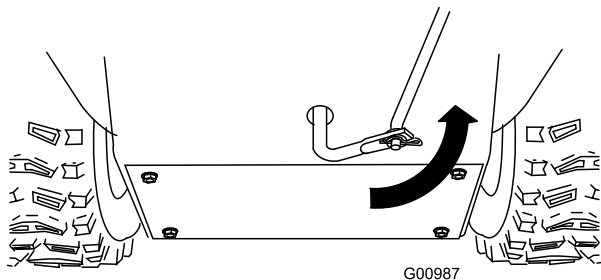

**Figure 11**
3. Remove the hairpin cotter and the outer washer from the trunnion on the upper end of the speed control rod (Figure 11).
**Note:** To make installation easier, leave the flat washer on the trunnion (Figure 11).
6. Lift up on the speed control rod and insert the trunnion into the hole in the speed selector lever (Figure 11).